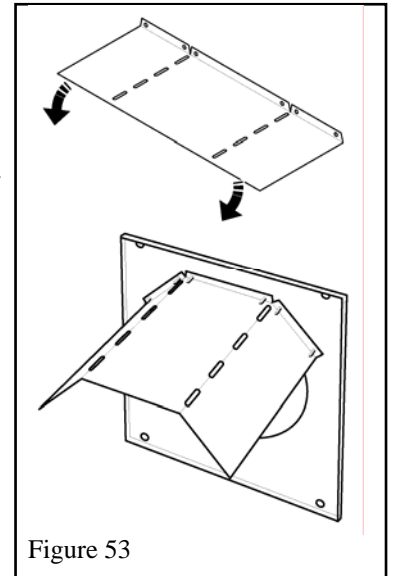

Figure 53
1. Bend the wall shields and screw to the inside of the wall plates with 6 thread cutting screws per plate. see figure 53.